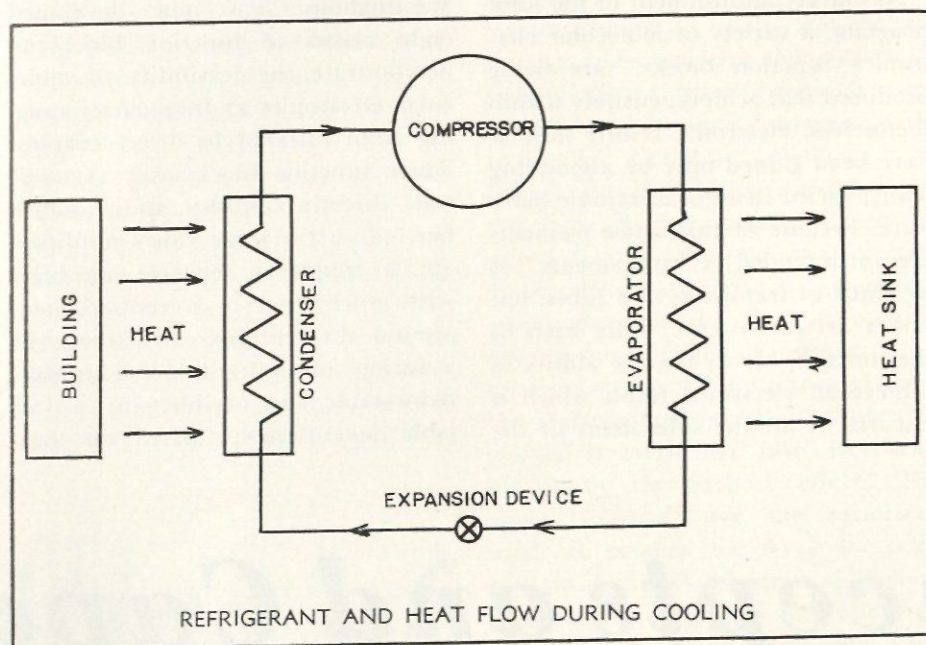

Figure 2.
Figure 2. Schematic drawing of a-c to d-c power supplies showing (1) molecular element with resistive, electrical-insulating, and thermoelectric domain and (2) conventional method using transformer, diode, and filter circuit.